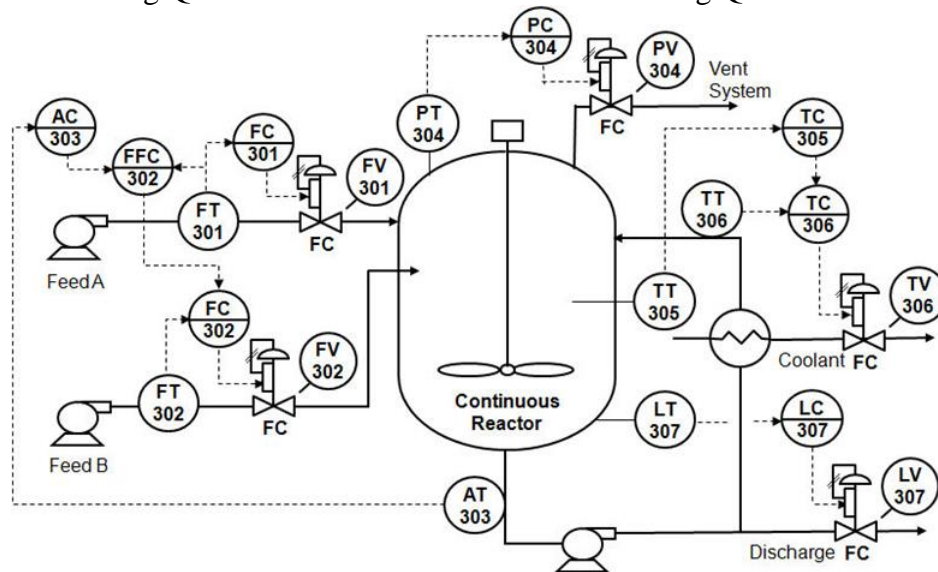

Fig Q2B
- 2B. Identify and explain ratio and cascade control loops implemented in the P & I diagram given in figure Q2B. **4**